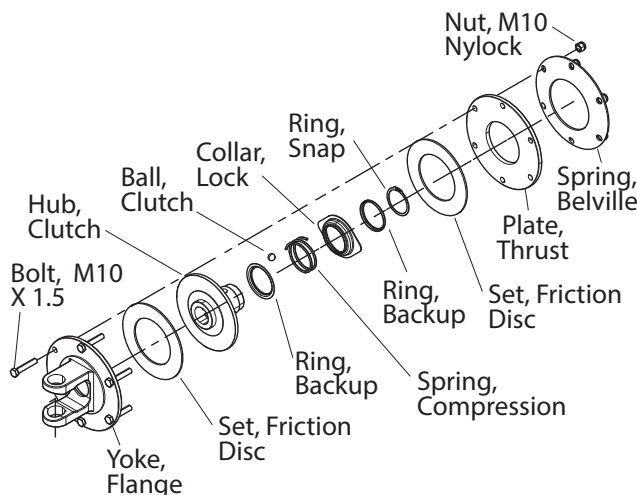

Figure 48: Slip clutch components
5. Check the condition of all parts, especially the friction discs (Figure 48).